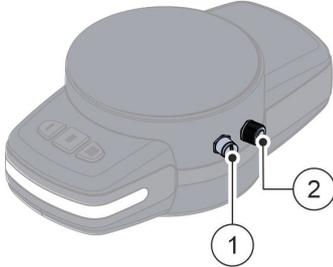

Fig. 63 External electrical interfaces on the media flange
- ① External 6-pin electrical interface
- ② External 8-pin electrical interface
Additional components such as grippers or sensors that are to be used together with a specific tool can be connected via the two electrical interfaces **Fig. 63** / ① + ② on the media flange.
The following sections describe by way of example how a signal lamp and an analogue sensor can be connected to the media flange via the electrical 8-pin interface **Fig. 63** / ②.